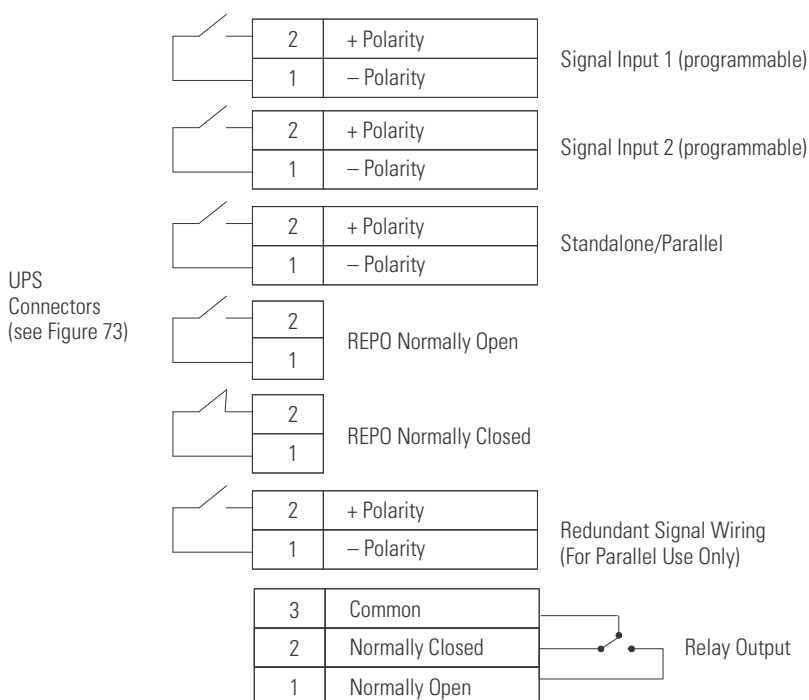

Figure 78. External Control Terminal Connections
The UPS incorporates a programmable relay output with potential free contacts for remote alarm indications (see Figure 78 on page 113). You can obtain an additional four relay outputs with the X-Slot compatible Relay Interface Card.
The UPS incorporates two programmable signal inputs (see Figure 78 on page 113). Use of non-polar (relay) control input is recommended. The pins must be shorted with maximum resistance of 10 ohm in order to activate the specific input.
See Figure 78 on page 113 for the polarity and verify these connections if polarity control is required.
There are two REPO positions that may be used, normally-open (NO) or normally-closed (NC). See Figure 78 on page 113 for REPO locations.